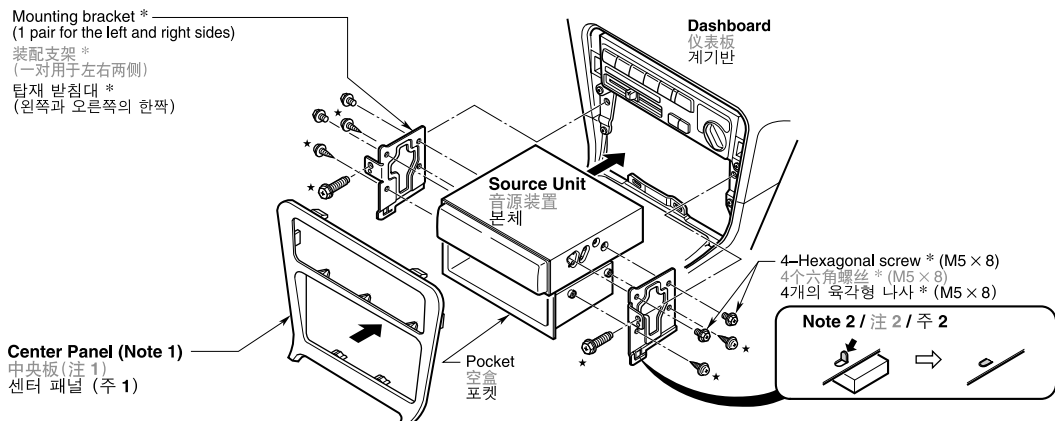

Figure 9 / 图 9 / 그림 9
This unit is designed for fixed installation in the dashboard. If the vehicle is equipped with a factory-installed radio, install the source unit with the parts and screws marked (+). (Figure 9)
- Secure the mounting brackets to the chassis as shown in Figure 9. Holes are pre-tapped for TOYOTA and NISSAN vehicles; modification, such as drilling new holes, of the mounting brackets may be required for other models.
本机用于固定在仪表板上。如果汽车装备有出厂时安装好的收音机，请用带星号(+)的零件和螺丝安装音源装置。(图9)
- 如图9所示，将装配支架固定在底盘上。丰田和日产汽车已预先钻好孔，其它车型可能需要改造装配支架，如钻出新孔等。